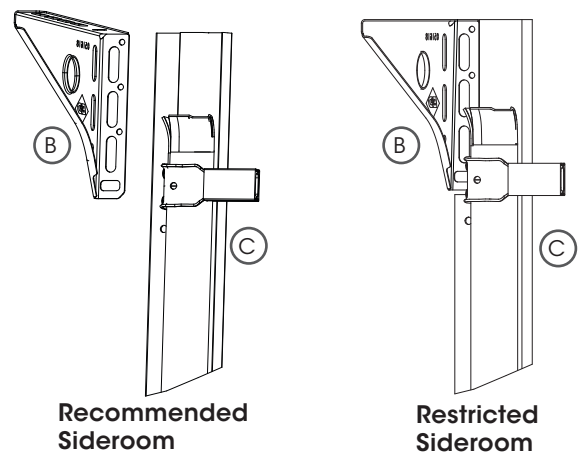

Fig: 2.4.2
- (i) If there is limited sideroom available the guide may need to have the side cut out to accommodate. See **Fig 2.4.2** for recommended and restricted sideroom with a clearance of 2-5mm to the bottom rail roller.